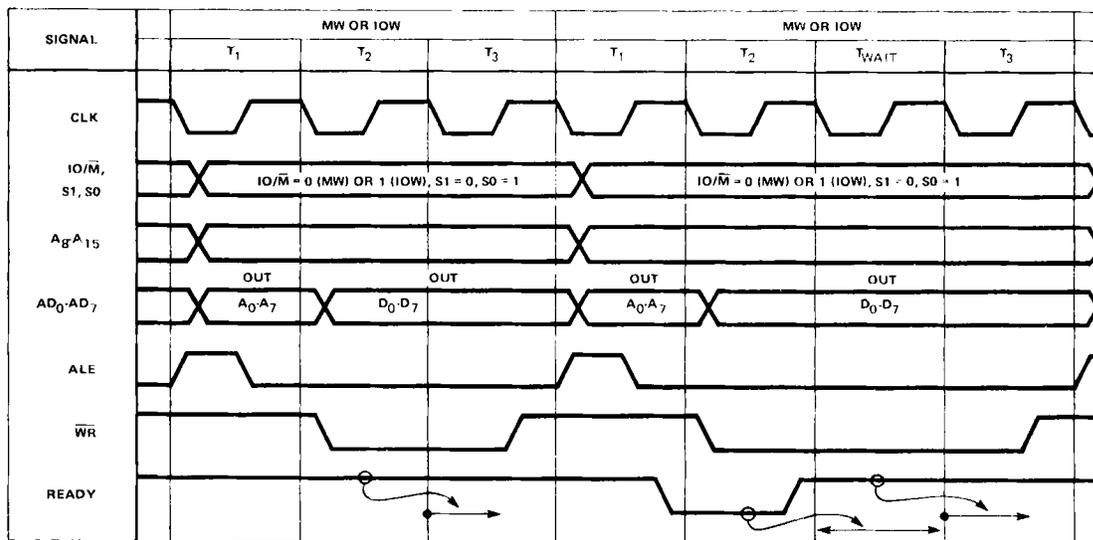

FIGURE 2-16 MEMORY WRITE (OR I/O WRITE) MACHINE CYCLES (WITH AND WITHOUT WAIT STATES)
2.3.3 WRITE Cycle Timing**MEMORY WRITE (MW):**
Figure 2-16 shows the timing for two successive MEMORY WRITE (MW) machine cycles, the first without a T_{WAIT} state, and the second with one T_{WAIT} state. The 8085A sends out the status during T_1 in a similar fashion to the OF, MR and IOR cycles, except that $IO/\bar{M} = 0$, $S1 = 0$, and $S0 = 1$, identifying the current machine cycle as being a WRITE operation to a memory location.
As Figure 2-16 shows, the timing for an I/O WRITE (IOW) machine cycle is the same as an MW machine cycle except that $IO/\overline{M} = 0$ during the MW cycle and $IO/\overline{M} = 1$ during the IOW cycle.